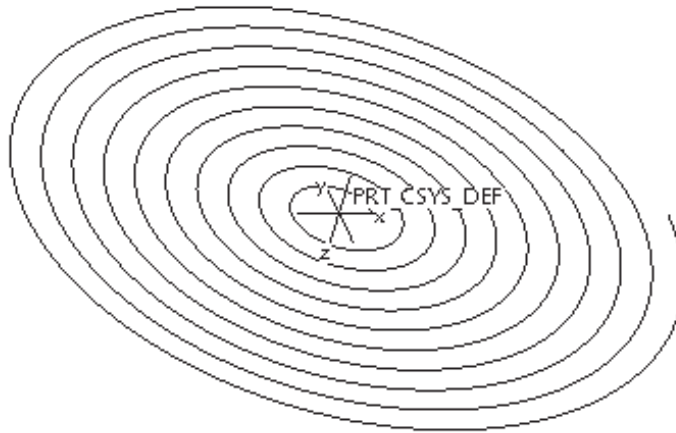

Figure 8-44 Spiral-shaped datum curve
5. Choose **OK** from the dialog box to exit. The spiral-shaped datum curve appears in the drawing area, as shown in Figure 8-44.